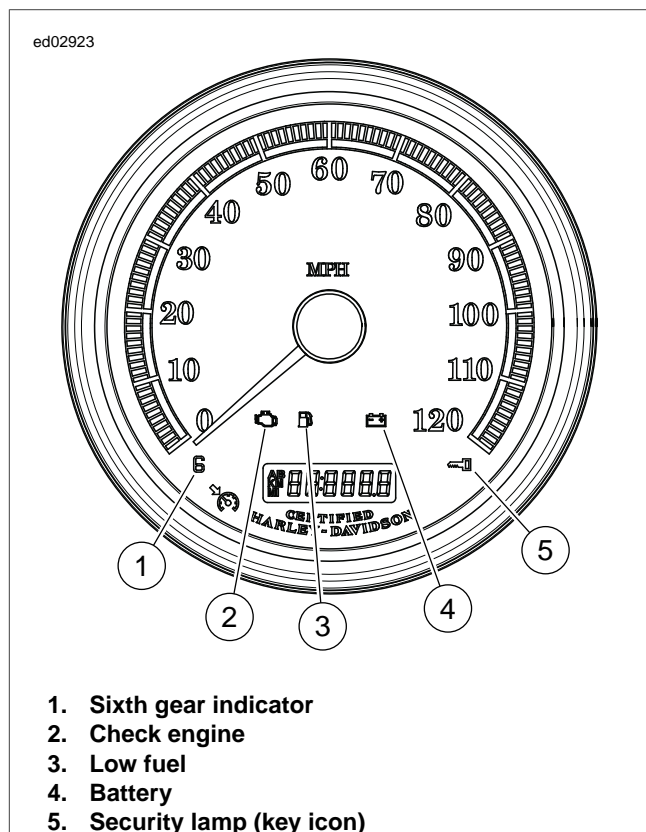

Figure 3-12. Speedometer
- For a quick check of speedometer function, a "WOW" test can be performed. Press and hold trip odometer reset switch then turn Ignition Switch ON. Release trip odometer reset switch. See Figure 3-12. Background lighting should illuminate, gauge needles should sweep their full range of motion, and indicator lamps (battery, security, low fuel, check engine and sixth gear) should illuminate. All lamps should illuminate, even those not used in normal vehicle operations.